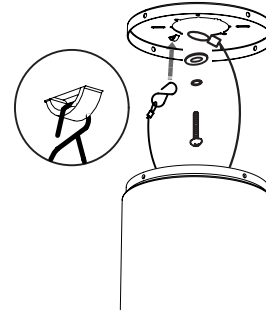

FIGURE 11
Receiver to house supply wires electrical connections: (Fig. 11 & 12)
1. Lift motor assembly and hang it using the cable/hook as shown in Figure 11.
2. Secure the safety cable to the building structure using a wood screw (Fig. 11).